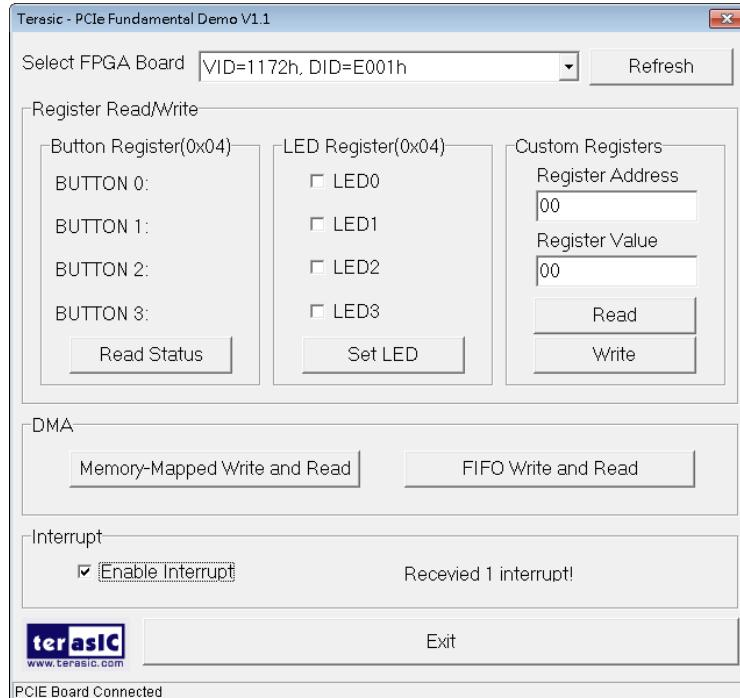

Figure 7-12 Program GUI of PCIe Fundamental Demo
- Launch the demo program PCIe_Fundamental_Demo.exe shown in **Figure 7-12**.